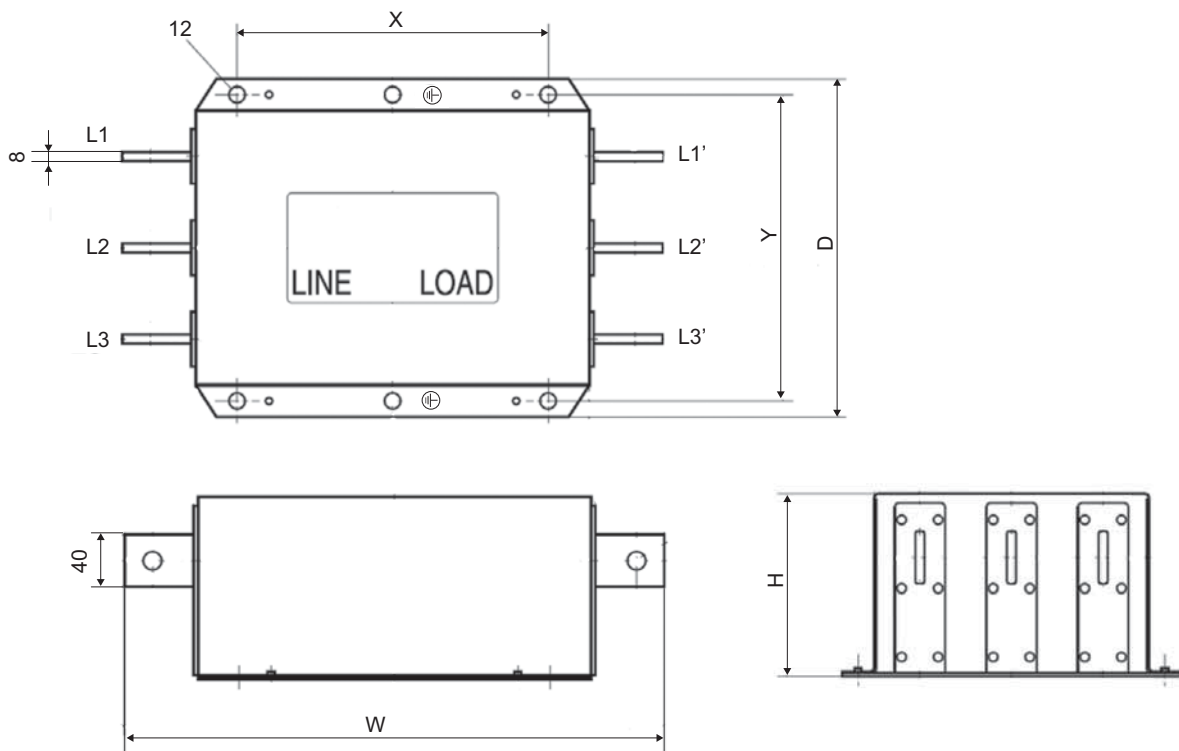

Figure D.16 EMC Filter Dimensions (4A0270, 4A0370)
| 4A0270 | B84143B1000S080 | EPCOS | 1000 | 18.5 (41) | 410 × 140 × 260 (16.1 × 5.5 × 10.2) | 235 × 240 (9.3 × 9.4) | Figure D.16 |
| 4A0370 | B84143B1000S080 | EPCOS | 1000 | 18.5 (41) | 410 × 140 × 260 (16.1 × 5.5 × 10.2) | 235 × 240 (9.3 × 9.4) | Figure D.16 |